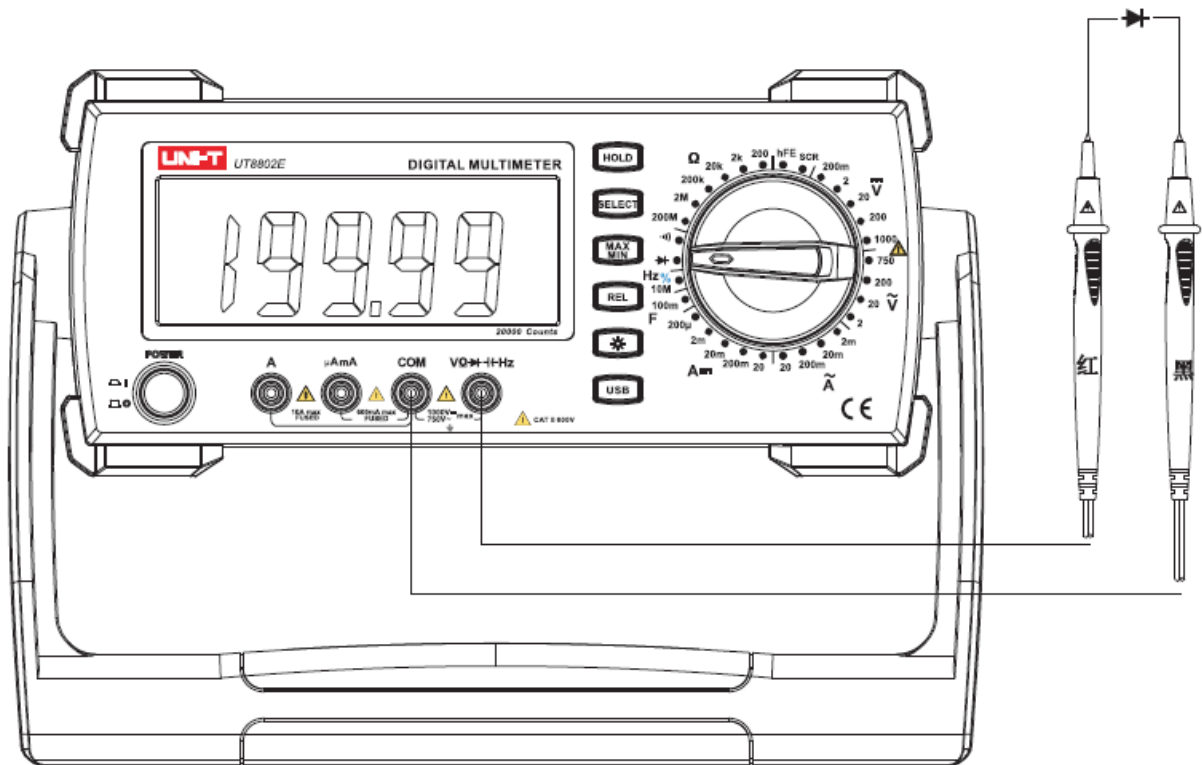
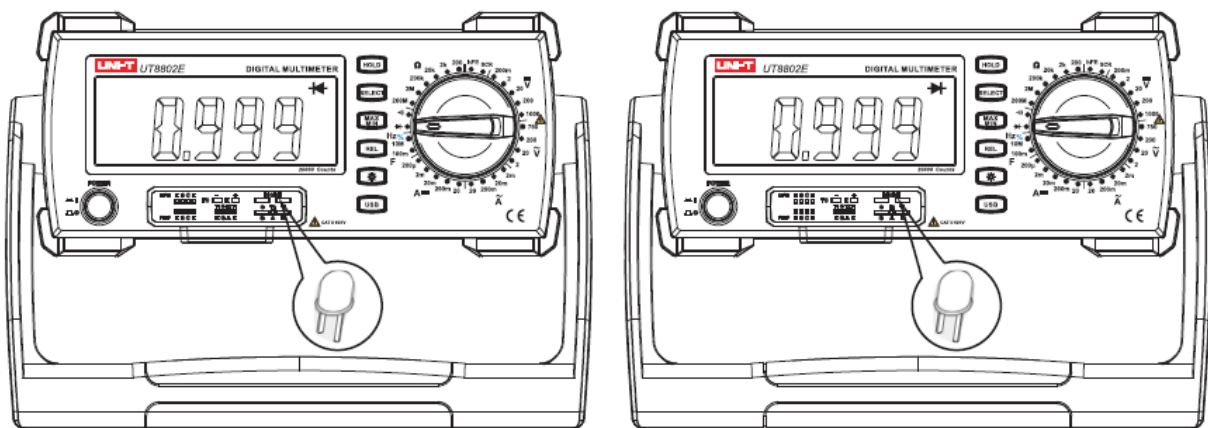

Figure 8
Figure 9
Measurement of Diode (see Figure 8, Figure 9) Method one:
1. Insert adaptor UT-S03A into where it is required to be loaded on the instrument (Figure 9).